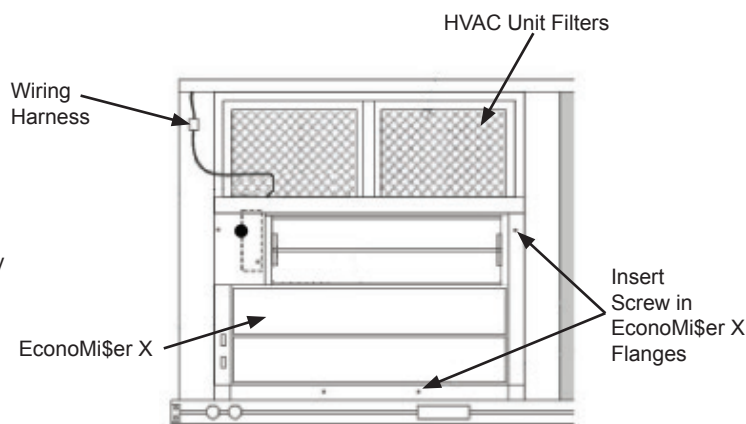
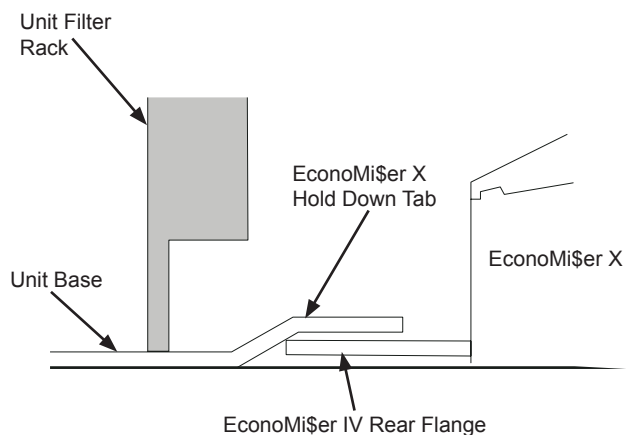

Fig. 5 - EconoMi\$er X Installed in HVAC Unit (Small Cabinet Economizer Shown)
Fig. 6 - Rear EconoMi\$er X Flange Installation (Small and Large Cabinet)
6. Set the EconoMi\$er X upright. (See Fig. 5.)
7. Slide the EconoMi\$er X assembly into the rooftop unit. (See Fig. 5). On small and large cabinets be sure to engage the rear EconoMi\$er X flange under the tabs in the return-air opening of the unit base. (See Fig. 6)